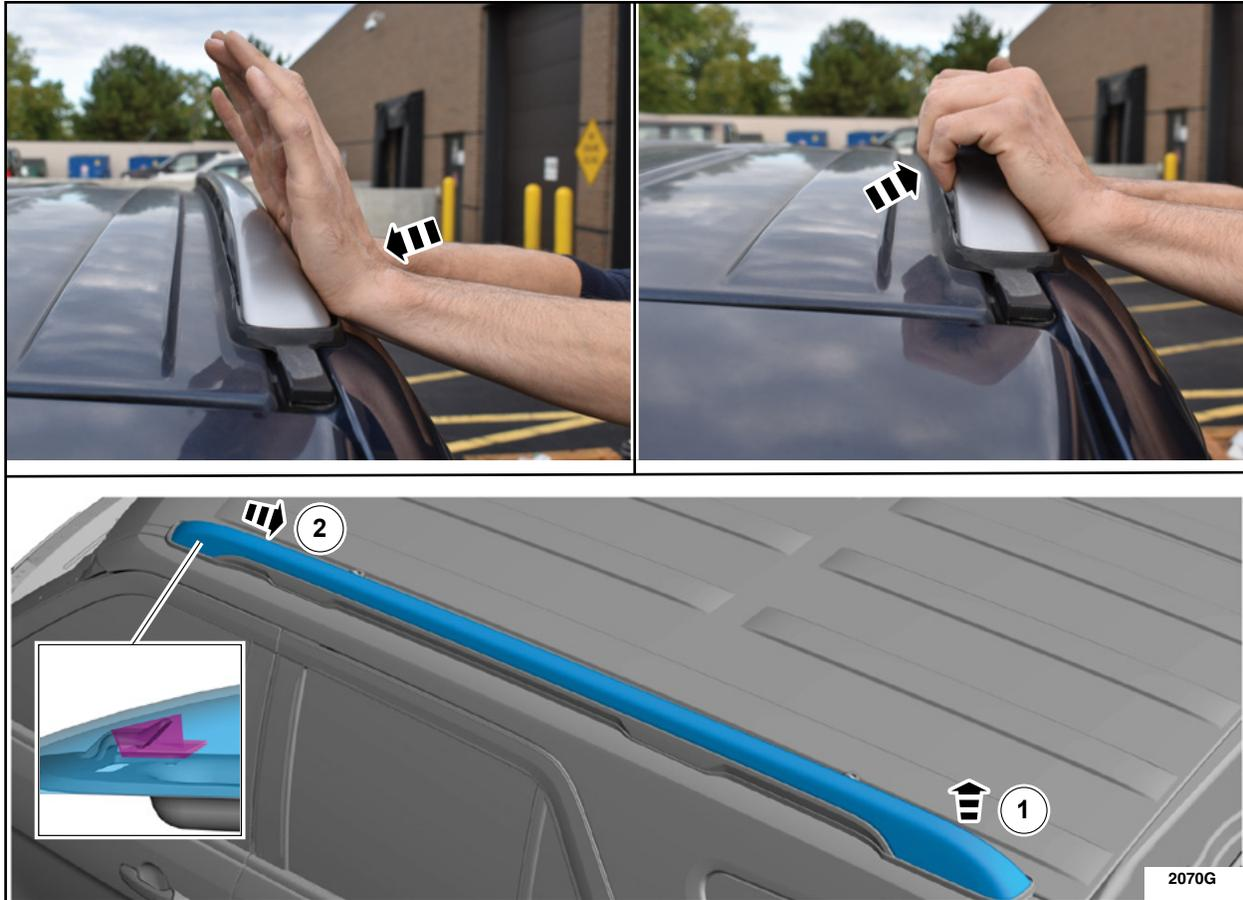

FIGURE 2
- Using your hands and starting at the rear of the vehicle, disengage the retainer clips by pushing with the palms of your hands and pulling with your finger tips. Work your way down towards the front of the vehicle, slide the roof rail cover rearward and remove the roof rail cover. See Figure 2.